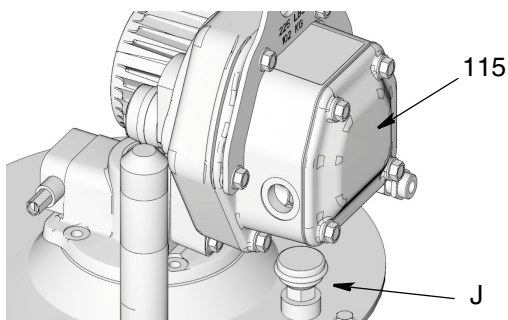

FIG. 49
NOTE: When the pump is correctly installed, the breather (J) will be below the control box (115) as shown in FIG. 49.